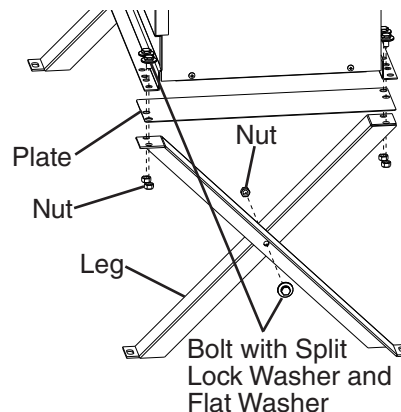

Fig. 10
- 1) Assemble 2 sets of legs using the legs, bolts, and nuts provided. See Fig. 10.